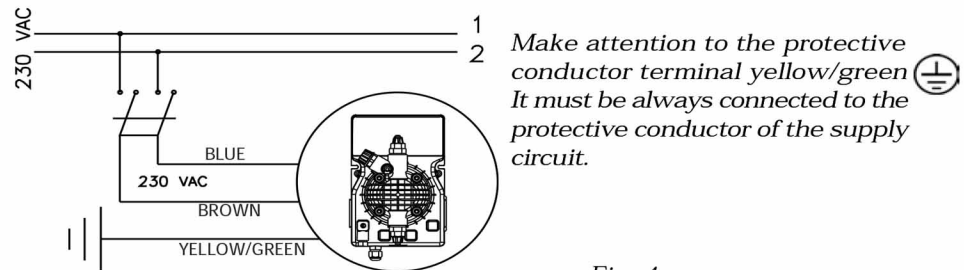

Fig. 4
1. Disconnect the pins from the mains or by means of a two poles switch with 3 mm minimum distance between the contacts. (Fig. 4).
- b. - Carefully observe the regulations in force in the various countries as regards electrical installations (Fig.4). **When the supply cable is devoid of a plug, the equipment should be connected to the supply mains by means of a single-pole circuit breaker having a minimum distance of 3 mm between the contacts. Before accessing any of the electrical parts, make sure that all the supply circuits are open.**